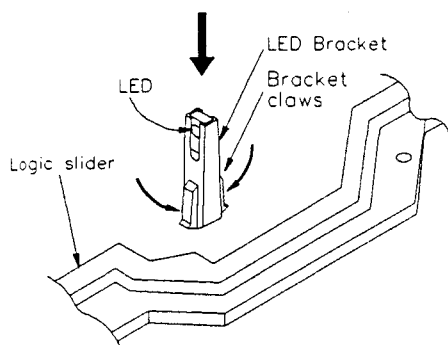

Fig. 4-15-4
5. Press and bend claws of the LED bracket in direction shown by the black arrows on upper side of the mechanism assembly, and then push them in direction shown by the white arrow so that they can pass the hole (Fig. 4-15-4).
When removing or remounting, take care that the LED is not contaminated by grease or damaged by scratches. (Fig. 4-15-4)